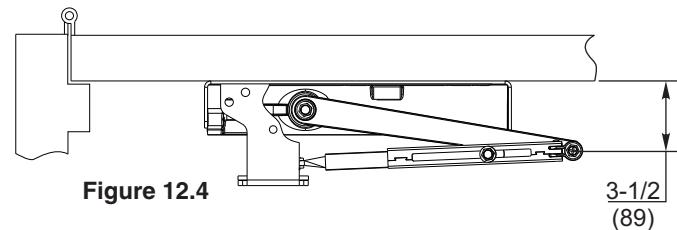

Figure 12.4
- To decrease power of the closer, re-adjust the arm elbow pivot point farther away from door face (Figure 12.4).